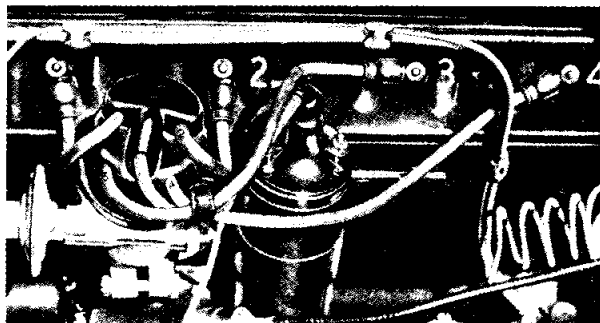

Fig. 26
- (o) Fit the distributor cover, connect the plug leads to the correct plugs (Fig. 26). The plugs having had their gaps set to .032". Fit the H.T. and L.T. leads to the ignition coil.